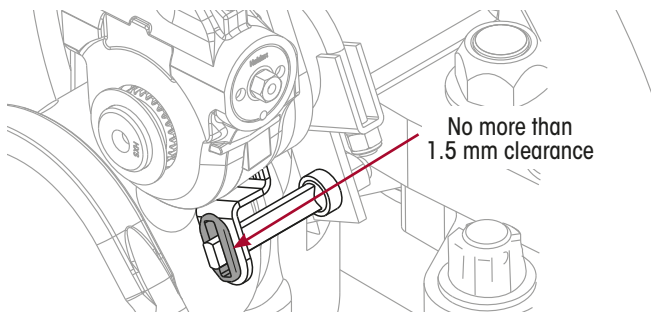

Figure 27: Check Anchor Stud Clearance
6. The anchor stud must be in close contact with the brake adjuster control arm for the self-adjustment mechanism to work properly and are designed to have no clearance when new. If the measured clearance is greater than 1.5 mm, the stud grommet needs to be replaced. Refer Figure 27.